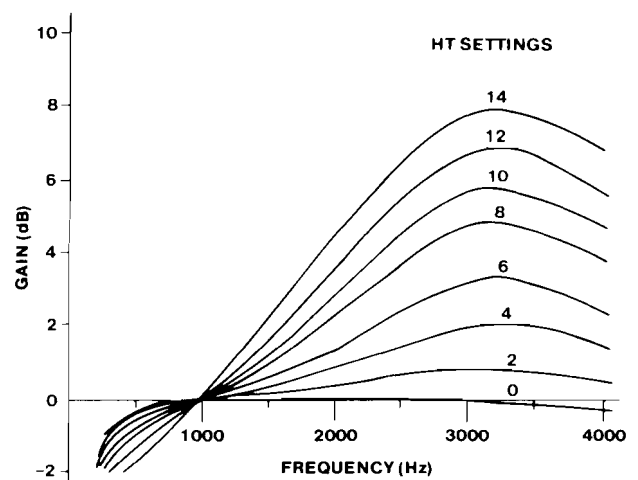
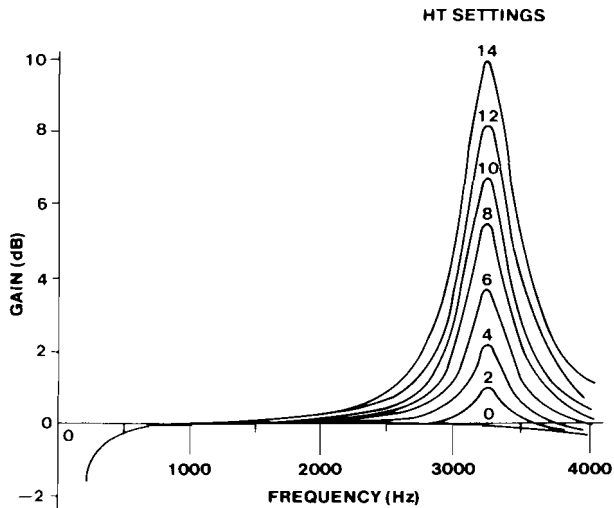

figure 6. Typical response curves for receive equalizer in bump mode, BW switch = 14
figure 7. Typical response curves for receive equalizer in bump mode, BW switch = 3
2.11 Figures 6 and 7 show typical response curves for the 309B-equivalent equalizers in the bump mode. Figure 6 shows the curves representing various height settings versus a wide bandwidth setting, while figure 7 shows the curves representing various height settings versus a narrow bandwidth setting. For comparison purposes, all frequency-response curves in both figures are drawn with the same 0dB-gain reference point (1004Hz). Actually, all of these curves except those for a height (HT) switch setting of 1 or 0 and/or for a bandwidth (BW) switch setting of 5 or less are raised above the 0dB level by as much as 3.9dB. The exact amount by which a particular curve is raised depends upon the HT and BW switch settings selected. These amounts are listed in table 3.